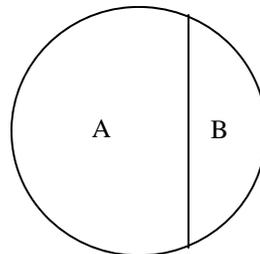

Figure 1
- 1) The first type, which is our standard, is the result of a shear cut of the pin. This process produces two distinct areas on the end of the pin as shown in Figure 1 – these areas are separated by a line. Area A will be equal to or greater than 75% of the pin end area and may have a finish approaching  $32\ \mu\text{in.}$  Area B will have a rougher, grainier surface, caused by tensile failure on the balance of the pin during the cutting process. This finish may not in all cases be suitable for wire bonding.
- 2) The second type of finish we offer is the ground flat (GF), which provides a finish of  $32\ \mu\text{in.}$  or better over the entire pin end. This ensures a surface that is suitable for the majority of wire bonding techniques.